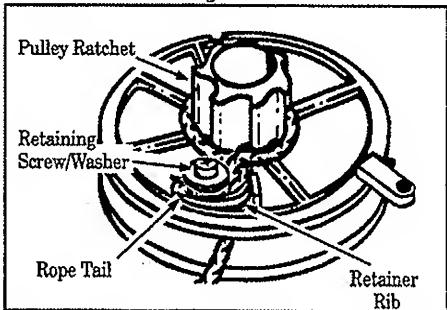

Figure 18
- Wrap rope counterclockwise around the pulley ratchet and tuck the loose end back under the rope, leaving about a 1 inch (25 mm) tail next to the retainer rib. Figure 18.
- Install and tighten the retainer screw and washer. Figure 18.